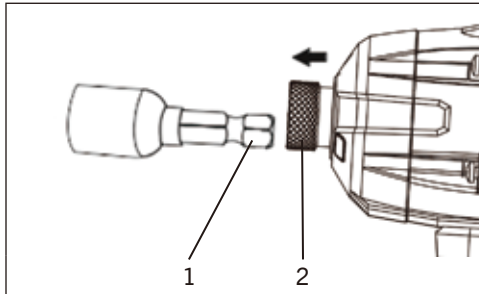

FIG. 11
2. Insert the hex end (1) into the hex drive (2) (Fig. 11).